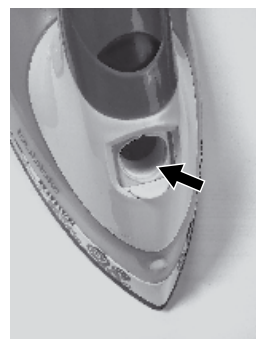

Fig. 1
3. Open the filling hole cover (Fig. 1) and fill the tank with water. Use only distilled or boiled water. Don't fill the tank with a liquid other than water. Do not put any additions in the water. There is a risk of damage to the unit. The capacity of the tank is approximately 350 ml. Do not exceed the maximum marked water level.